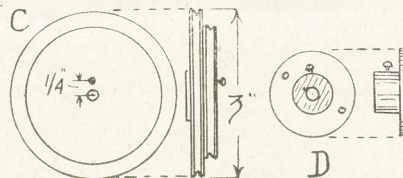

Fig. 3—Details of driving wheel and pulleys
The driving wheel, Fig. 3 (C) consists of a pair of fretwood discs, glued together, and bored through with a $\frac{1}{4}$ in. hole. The smaller disc is $2\frac{1}{2}$ ins. diameter and both should be cut with accuracy. A groove on the edges to hold the belt, can be filed round, using a three-cornered file for the purpose.